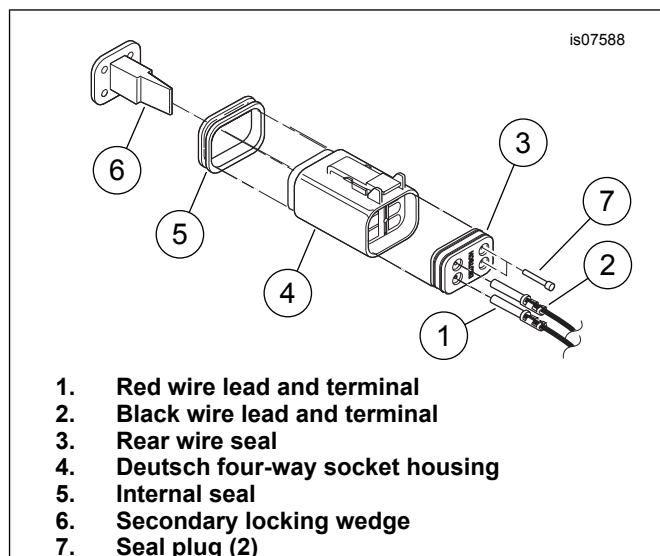

Figure 2. Insert Terminals into Deutsch Socket Housing
4. See Figure 2. Assemble the Deutsch heated backrest connector. Refer to the service manual for specific information on the following generalized steps.
- a. Insert the rear wire seal (3) into the Deutsch four-way socket housing (4) from the kit.
- b. Insert the red wire lead and terminal (1) into cavity 3.
- c. Insert the black wire lead and terminal (2) into cavity 4.
- d. Install the internal seal (5).
- e. Insert the secondary locking wedge (6).
- f. Insert seal plugs (7) into cavities 1 and 2.